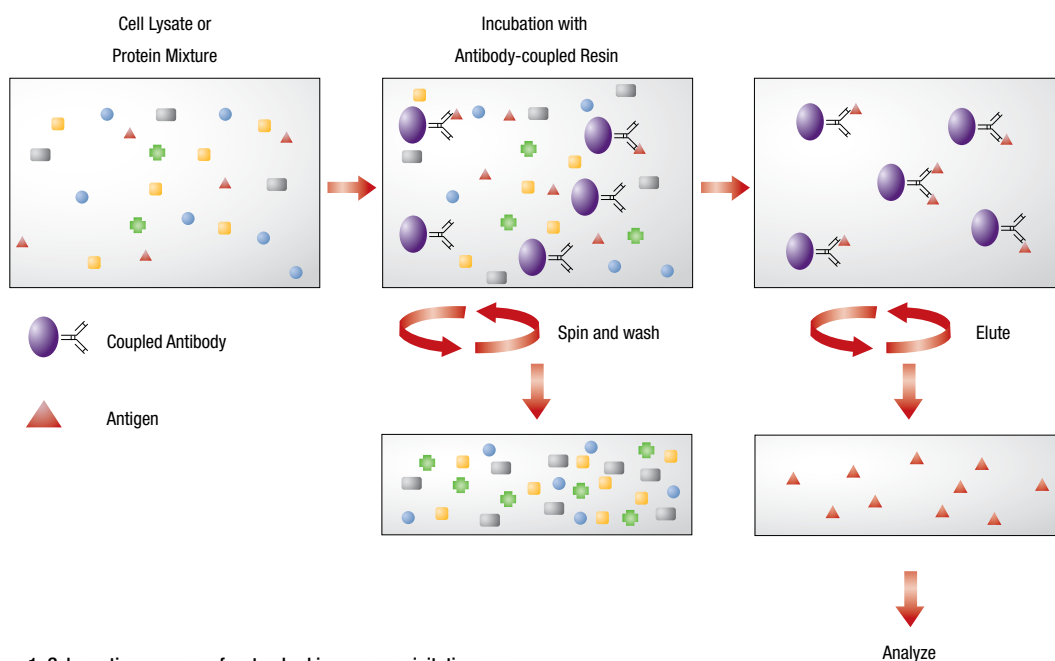

Figure 1. Schematic summary of a standard immunoprecipitation assay.
Figure 1. Ratio of protein abundance. Human Serum Albumin and IgG comprise almost 75% of all serum proteins. Other proteins with less (but still significant) abundance include α1-Acid Glycoprotein, α1-Antitrypsin, α2-Macroglobulin, Apolipoprotein A-I, Apolipoprotein A-II, Fibrinogen, Haptoglobin, IgA, IgM and Transferrin, which altogether comprise up to 95% of serum proteins.
Figure 1. Effective albumin removal improves 2D gel analysis of serum. **Panel A.** Human serum was diluted five-fold in TBS (i.e., 10µL of serum added to 40µL of TBS), and 5µL of the diluted serum was separated by 2D-SDS PAGE. **Panel B.** Human serum was diluted two-fold in Binding/Wash Buffer (i.e., 50µL of serum added to 50µL of buffer) and processed using the Pierce Albumin Depletion Kit according to the instructions. Albumin-depleted samples and washes were combined (i.e., 100µL sample with 150µL wash buffer) and 5µL was separated by 2D SDS-PAGE. For 2D SDS-PAGE analysis, samples were diluted with 2D SDS-PAGE loading buffer, focused using pH 4-7 isoelectric focusing (IEF) strips and separated using 8-16% Tris-glycine gels. Gels were stained using Thermo Scientific™ GelCode™ Blue Stain (Product # 24590). The black arrow points to the gel region where albumin is located on the duplicate gels before (A) and after (B) processing.
Figure 1. Performance of Thermo Scientific Pierce Top 12 Abundant Protein Depletion Spin Columns compared to equivalent products from other suppliers. Human serum (10–20µL, Product # 31876) was loaded onto each resin and processed according to the manufacturer's protocol (Agilent: Human 14 Multiple Affinity Removal Spin Cartridge, Product # 5188-6560; Sigma: SEPPRO™ IgY14 Spin Column, Product # SEP010; BAC: CaptureSelect™ HumanPlasma 14 Depletion Resin, Product # 291.9914) protocol. Total protein in the depleted fractions was estimated using Thermo Scientific™ Pierce™ BCA Protein Assay Kit (Thermo Scientific, Product # 23225). Total amount of albumin in the depleted fractions was determined using AssayMax™ Human Albumin ELISA Kit (Assaypro, Product # EA2201-1). FT = flow-through (i.e., depleted sample); E = eluate (i.e., proteins that were bound by the resin, plus stripped affinity antibodies of the column). Performance of all four products is comparable in this analysis. With the Top 12 proteins removed, low-abundance proteins are now visible in each depleted sample lane (FT).
Phospho-specific antibodies recognizing key regulatory proteins involved in growth factor signaling were used to monitor binding specificity of the Pierce Phosphoprotein Enrichment Kit (Figure 1). Specificity of the kit is further demonstrated by the absence of Cytochrome C (pI 9.6) and p15Ink4b (pI 5.5), two proteins not predicted to be phosphorylated, in the elution fraction and their emergence in the flow-through and wash fractions (Figure 1). Furthermore, dephosphorylation of HeLa cell extract *in vitro* resulted in diminished binding of PTEN, MAPK and GSK3 β to the Thermo Scientific™ Pierce™ Phosphoprotein Enrichment Column as evidenced by their absence in the elution fraction. In contrast, all three proteins were present in the elution fraction from non-treated HeLa extract (Figure 2). The Pierce Phosphoprotein Enrichment Kit provided superior and efficient phosphoprotein enrichment yields when compared to other suppliers' products (Table 1). It also effectively enriched phosphoproteins from homogenized mouse liver tissue (Figure 3).
Figure 1. Highly pure phosphoprotein enrichment from complex biological samples. Serum-starved HeLa and NIH 3T3 cells were stimulated with EGF and PDGF, respectively. Cell lysate (2mg) was used for enrichment. Concentrated flow-through, wash and elution fractions were resolved by SDS-PAGE. Gel lanes were normalized by protein concentration (10 μ g/lane). Western blot analysis was performed using antibodies that detect site-specific phosphorylation events. Cytochrome C (pI 9.6) and p15Ink4b (pI 5.5) served as negative controls for nonspecific binding of non-phosphorylated proteins. FT = flow-through fraction, W = pooled wash fractions, E = pooled elution fractions and L = non-enriched total cell lysate.
Figure 1. Diagram of Thermo Scientific Pierce Protein A/G Magnetic Beads. The magnetic particles are 1µm in diameter and are specially manufactured with two layers of magnetite and encapsulation. Recombinant Protein A/G is coupled to the bead surface.